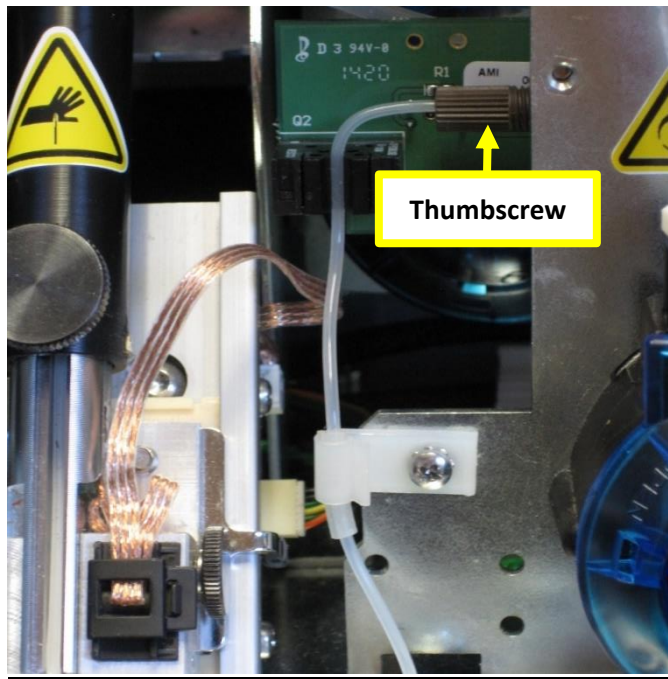

Figure 25
27. Remove tubing from the left side of the reading cell and tail sensor by turning the brown thumbscrew counterclockwise. Figure 25